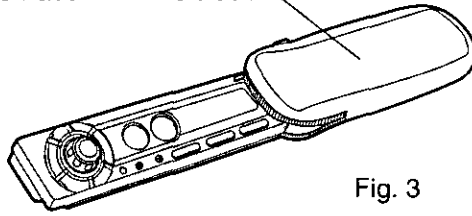

Fig. 3
- d) Remove the unit pulling with both hands. (→ Fig. 3)
④ As shown in Fig.3, keep the removable face plate in the case. Then, you can bring the plate safety.
⑦ Removable Face Plate Soft Case